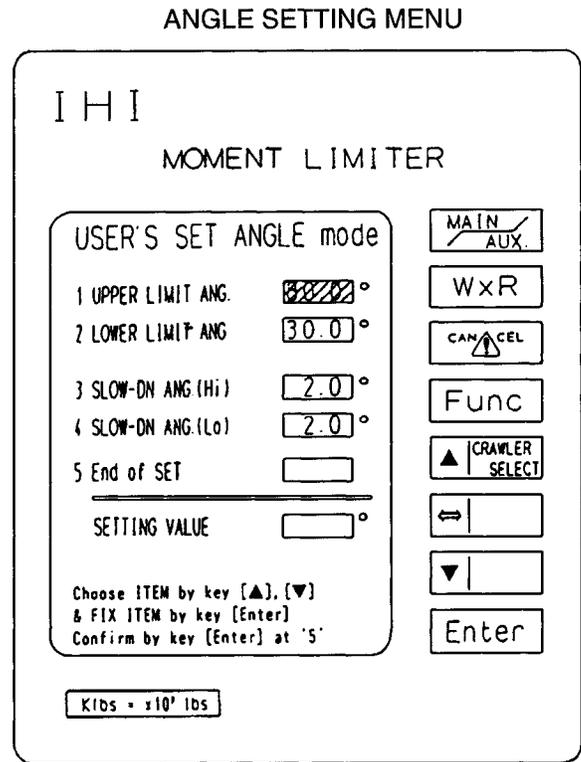

Figure 3
A. Bring the ANGLE SET mode screen up (see Figure 3).